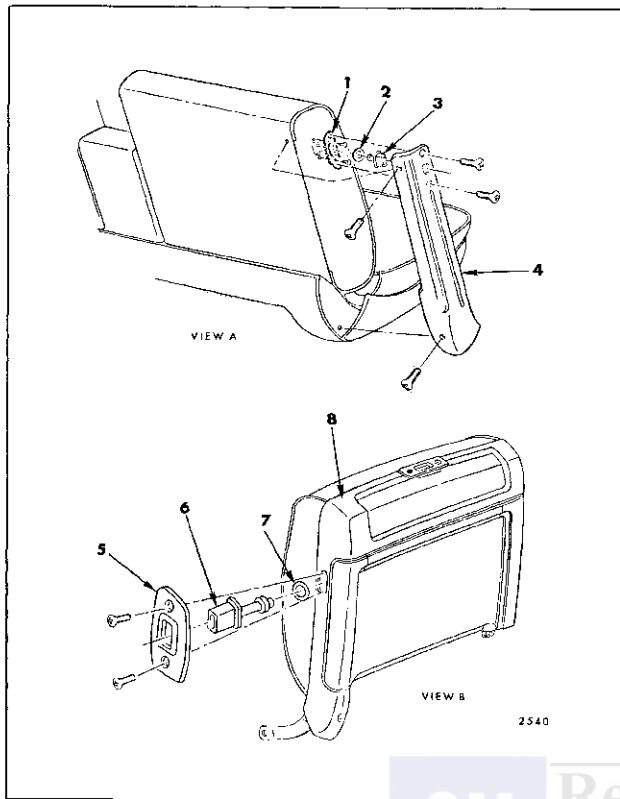

Fig. 15-22—Seat Back Lock Removal — "C & E"
2. On style with full seat back panel, remove seat back lock push button escutcheon and remove lock push button and ferrule; then, remove seat back panel (See View "B" in Fig. 15-22). On styles with seat side panel, remove seat side panel; then, remove lock push button and ferrule (See View "A" in Fig. 15-22).